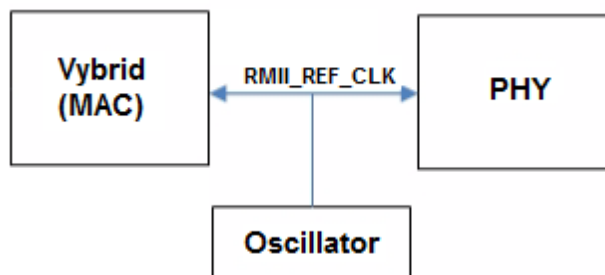

Figure 38. Reference clock from external oscillator to Vybrid and PHY
- By an external oscillator providing it to both Vybrid and the PHY (see Figure 38)